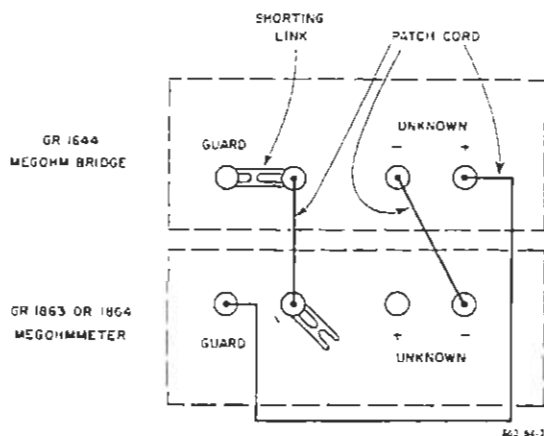

Figure 6-1. Connections for measuring standard resistors with the GR 1644 Megohm Bridge.
u. Connect the GR 1644 Megohm Bridge between the GUARD and -UNKNOWN terminals with two GR 274-LLB Single-Plug Patch Cords. Connect the two ground terminals together with a third patch cord (Figure 6-1). Leave the megohmmeter shorting link attached only to the ground terminal.